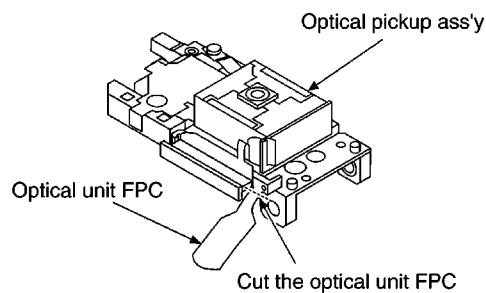

Fig. 2
2. Cut the optical unit FPC at the point shown below. (As shown in Fig. 2.)